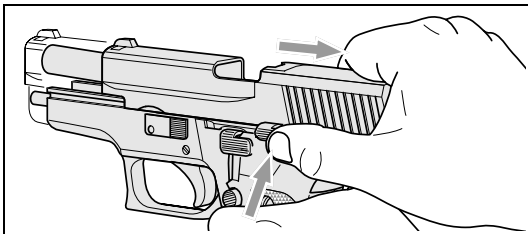

Fig. 7
4. Draw back slide **4** to the stop and thumb up slide catch lever **18** (see Fig. 7).